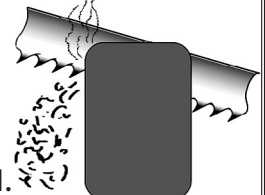

Figure 38. Reading metal chip characteristics.
- When cutting metal, pay attention to the characteristics of the chips when cutting—they are good indicators of proper blade speed and feed rate. **Figure 38** shows the basic metal chip characteristics and what they mean.